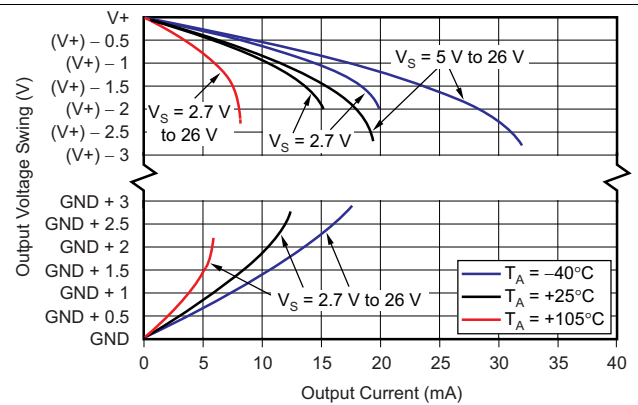

Figure 6. Output Voltage Swing vs Output Current
(1) RTI = referred-to-input.
(2) See typical characteristic curve, *Output Voltage Swing vs Output Current* (Figure 6).